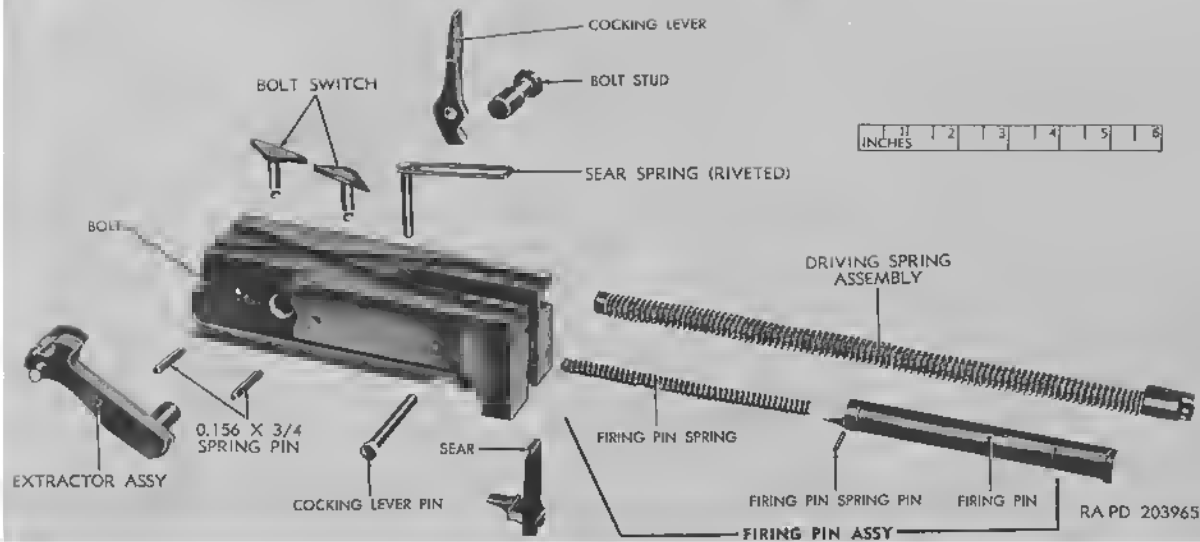

Figure 37. Bolt group—exploded view.
b. Drive out the cocking lever pin (fig. 37) and remove the cocking lever.